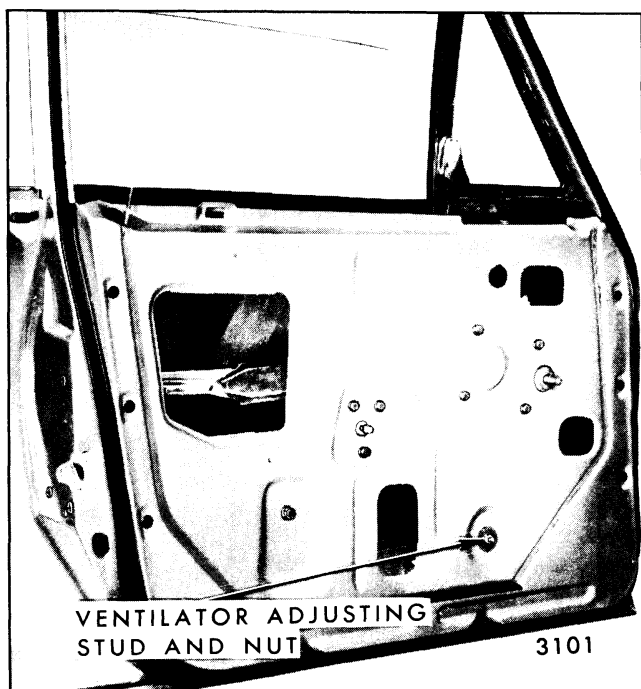

Fig. 5-76-Front Door Window Removal and Adjustment - "X-69" Styles with Optional Ventilator
1. To adjust lower portion of ventilator division channel for proper alignment with door window assembly, lower door window and loosen ventilator adjusting stud nut (Fig. 5-76). Turn adjusting stud in or out or position lower end of channel fore or aft as required; then, tighten adjusting stud nut.